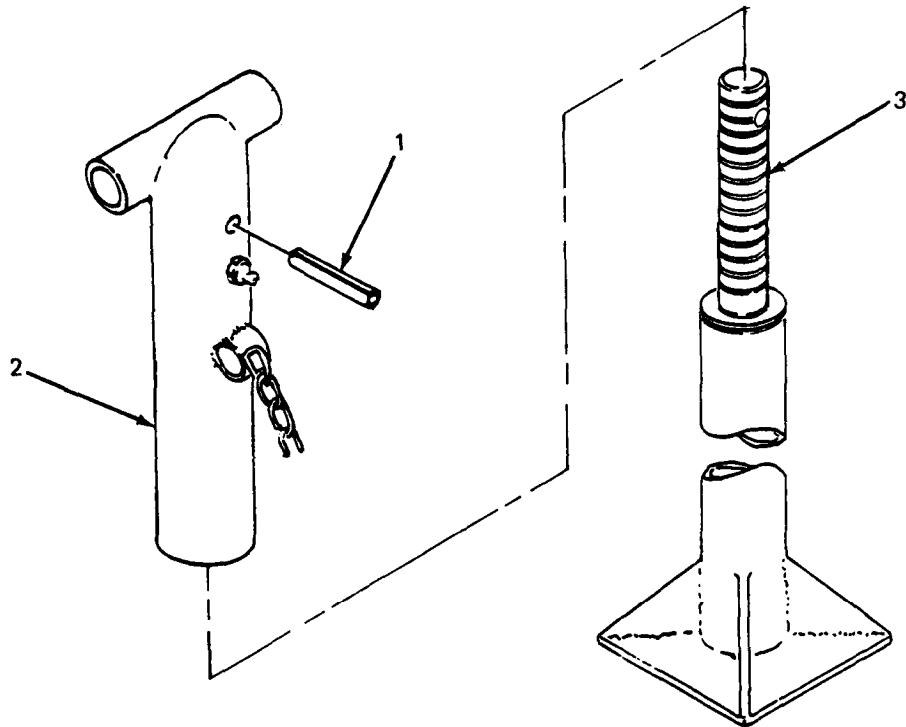

Figure 5-2. Leg Prop Disassembly.
- (a) Position bracket (4) on trailer frame (10) and install three screws (7), three flat washers (8), and three nuts (9). Tighten hardware to secure bracket.
- (b) Lift leg assembly into bracket (4) and secure by inserting angled bar (1) through holes in bracket and boss (2) on upper leg (3).
- (c) Position leg assembly to line up boss (2) on top of leg with pivot holes in bracket (4). Insert pivot shaft (6).
- (d) Insert cotter pin (5) in pivot shaft (6) and bend cotter pin legs in opposite directions.
- (e) Pull out angled bar (1) to unlock leg prop assembly.
- (f) Swing leg prop assembly up into traveling position and secure by inserting angled bar (1) through holes in bracket (4) and boss (2) on upper leg (3).
*b. Leg Prop Assembly Repair.* (See figure 5-2.) Repair of the leg prop assembly is limited to welding and repainting. However, partial disassembly is possible to facilitate repair. If required, repaint in accordance with MIL-T-704, Type F, color Green No. 383 of MIL-C-46168.
- (b) Clamp leg prop assembly in vise with spring pin (1) facing up.
- (c) Using suitable drift, drive spring pin (1) out of upper leg (2) and remove leg base (3).
- (a) Clamp upper leg (2) in vise with spring pin hole facing up.
- (b) Insert leg base (3) into upper leg (2) and turn leg base until hole in screw lines up with hole in upper leg.
- (c) Install spring pin (1) to secure leg base (3) to upper leg (2).
- (d) Install leg prop assembly on trailer (paragraph 5-2, a. (2)).